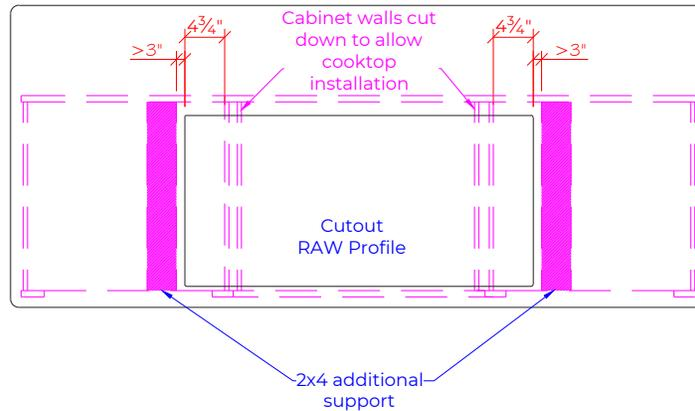

FIGURE 6
4. All cutouts require additional underside structural support. This additional support must be located within 3" of the opening, along all sides of the opening. See Figure 6.